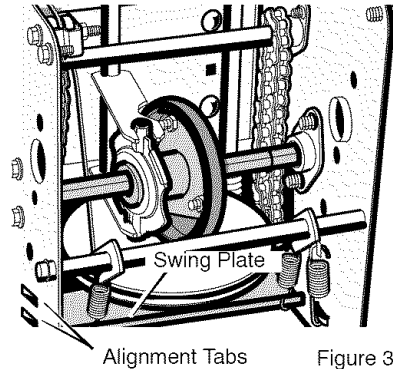

Figure 35
**plate** is properly secured (see Figure 35).